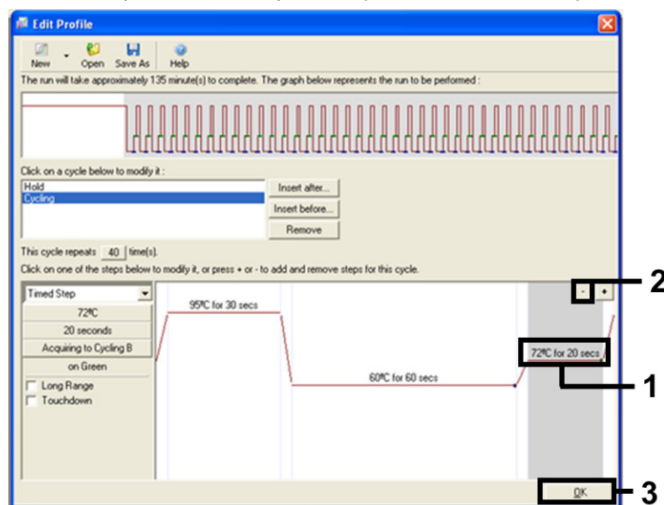

Figure 9. Removal of the extension step.
11. Highlight the third step and delete by clicking "-". Click "OK" (Figure 9).